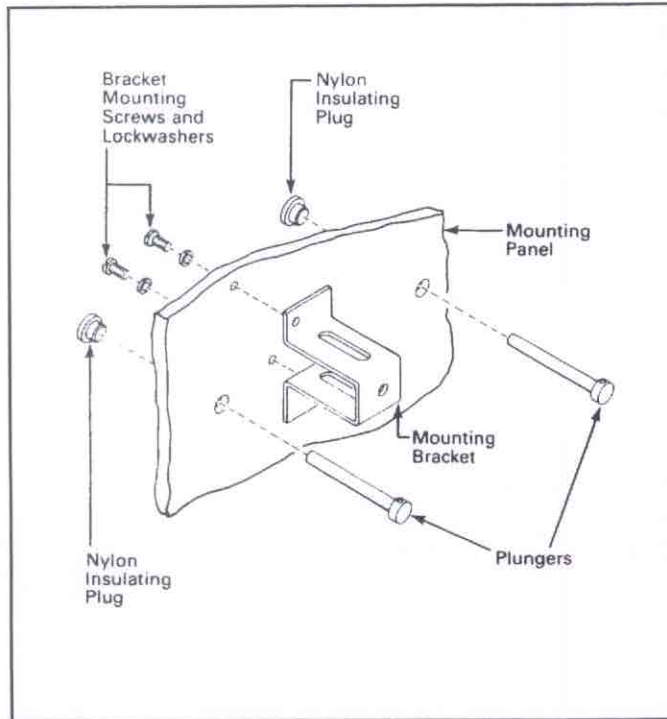

Fig. 2-5 Assembly and Installation of Mounting Bracket, Insulating Plugs, and Plungers
- 2-3. Install mounting bracket to back of customer-supplied mounting panel using two screws and lock washers supplied (Fig. 2-5).
- 2-4. When mounting circuit breakers to panel, insert two nylon insulating plugs in .625 inch (15.9 mm) diameter holes between mounting panel and circuit breaker (Fig. 2-5).
- 2-6. Insert ends of plungers through the mounting panel, and insulating plugs into the circuit breakers (Fig. 2-5).